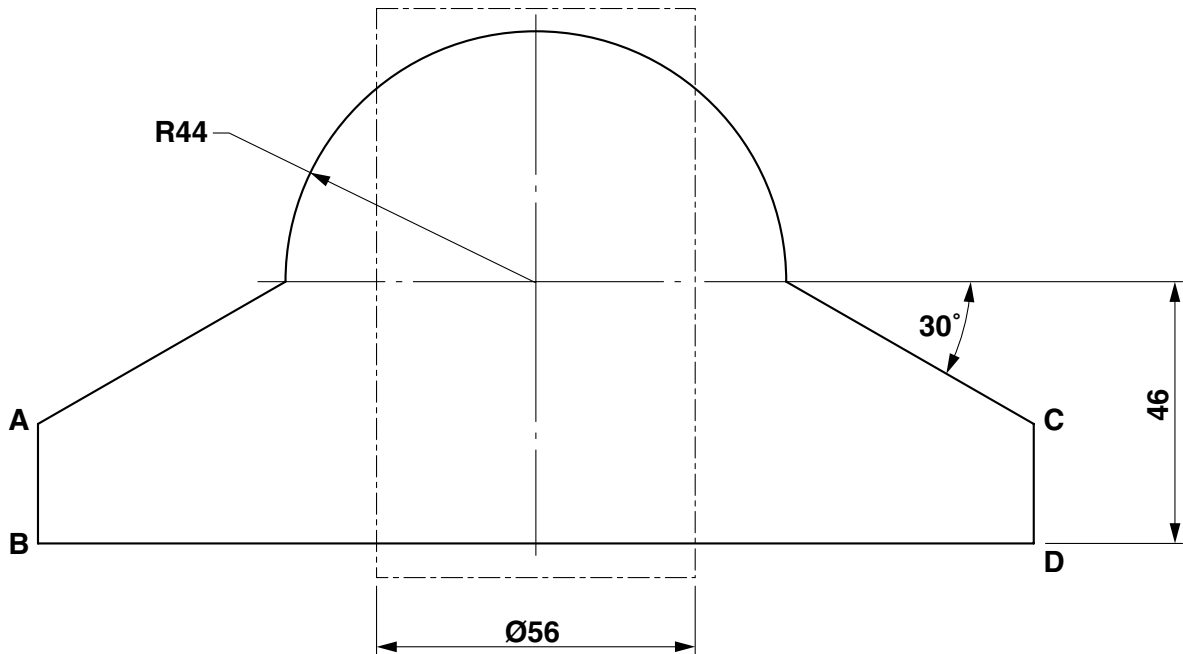

Fig. 3
- 3 A thin metal plate is shown in Fig. 3. The plate is to be wrapped tightly round a 56 mm diameter rod, indicated on the drawing by short chain lines, so that the two edges **AB** and **CD** touch each other.